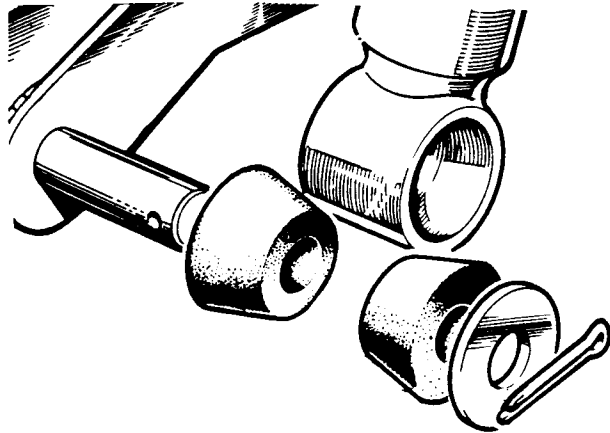

Fig J1.20
- (8) Refer to Fig J1.20. Disconnect the lower ends of the shock absorbers from the road spring bottom plates.